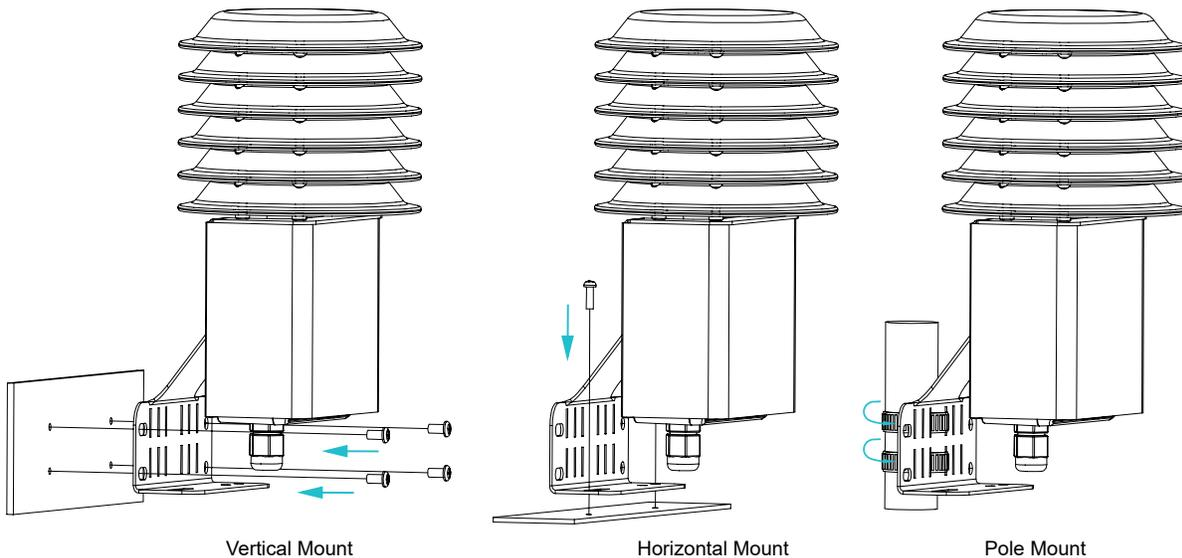

Figure 13 AcuHUM OAW Mounting Configurations
- Mount the entire installation by utilizing the mounting bracket on the back of the weather shield. The mounting bracket is designed to be mounted on a vertical/horizontal surface or onto a pole when paired with a gear clamp, as shown in Figure 13. The gear clamp is not provided by Accuenergy. Place the sensor inside the weather shield so that the sensor probe is protected by the shield, and the cordgrip points downward towards the ground.